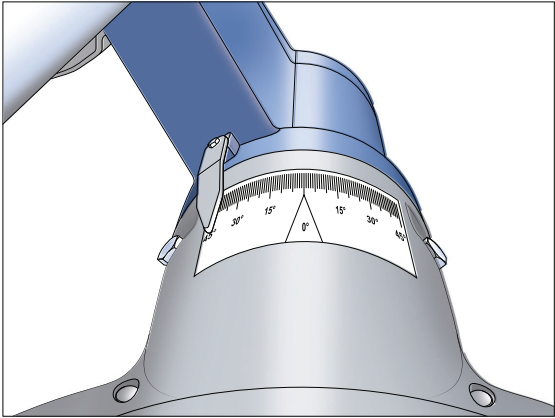

Figure 7e. Set the saw blade angle to 45°.
- Set saw blade - left tilt to 45° (Fig. 7e)
- Set saw blade - left tilt to 45° (Figure 7e)